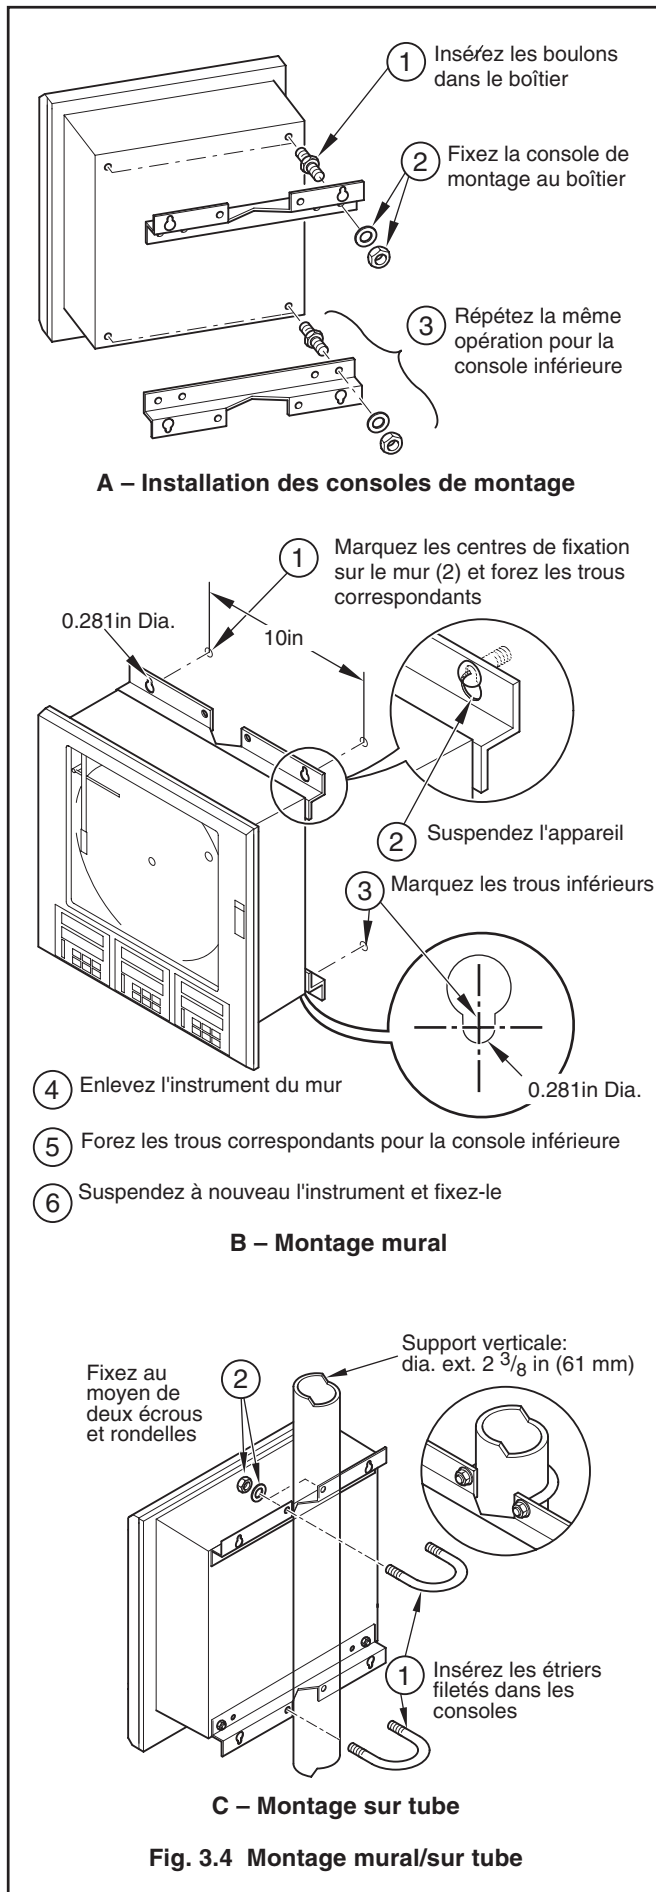

Fig. 3.4 Montage mural/sur tube
3.2.1 Montage mural/sur tube – Fig. 3.4